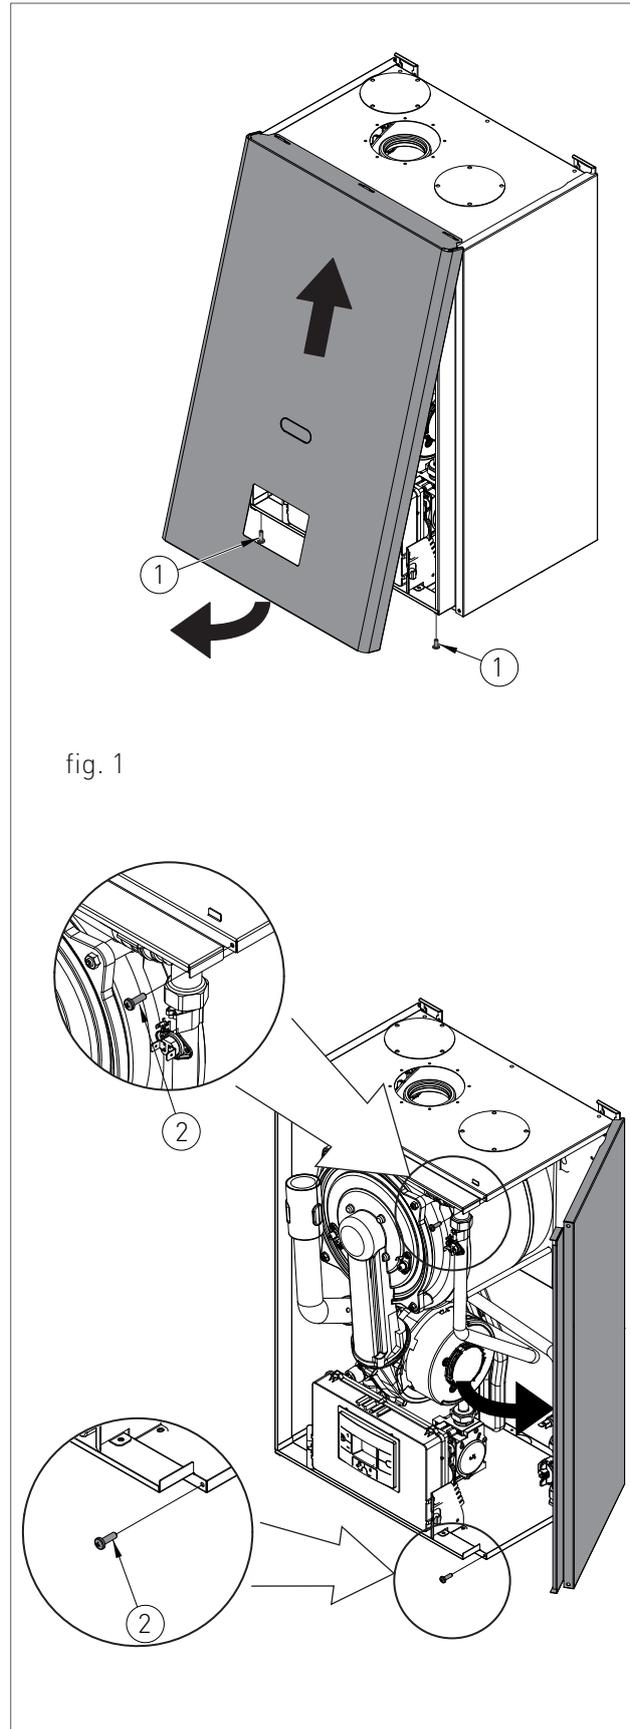

fig. 1
- › remove the fastening screws (1 - fig.1) placed on the lower edge of the front panel;
- › grab the front panel from the bottom and remove it pulling it to yourself and then upwards (see fig. 1).
- › remove the fastening screws (2 - fig.1) placed on the front edge of the side panel;
- › grab the bottom of the panel and remove it by moving it sideways and then pulling it upwards (see fig. 1).
- > Grab at the same time the support brackets of the control panel (fig. 1) loosening them and turn the panel downwards;
- > unscrew the two fastening screws 1 - fig. 1;
- > disengage the four hooks '2' - fig. 1;